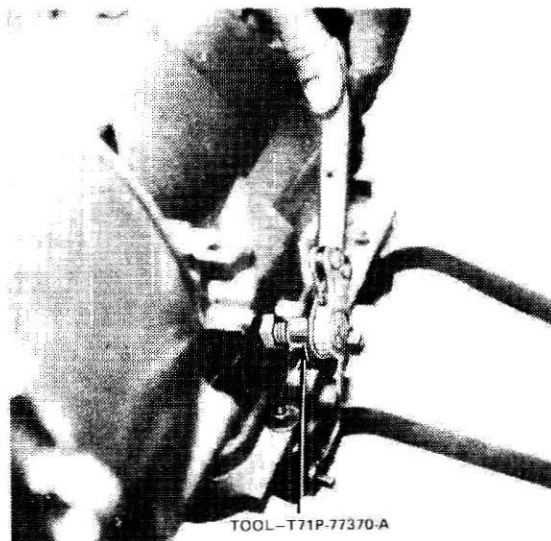

FIG. 4 Band Adjustment
3. Install a new locknut on the adjusting screw. Using Tool Kit T71P-77370-A (Fig. 4), tighten the adjusting screw until the tool handle clicks. The tool is a preset torque wrench that clicks and breaks when the torque on the adjusting screw reaches 10 ft-lbs.